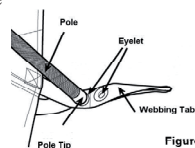

Figure 2
5. Starting with the roof support poles, insert the spiked end into the eyelet in the webbing tab at the base of and nearest to the flysheet (the other is for the peg) and repeat with the other end, by grasping the webbing tab firmly and pushing the pole through the sleeve (see figure 2). To achieve this, the pole sleeves must be eased over the poles, especially over the joint between the steel & fibreglass pole. Repeat with the remaining roof support poles.